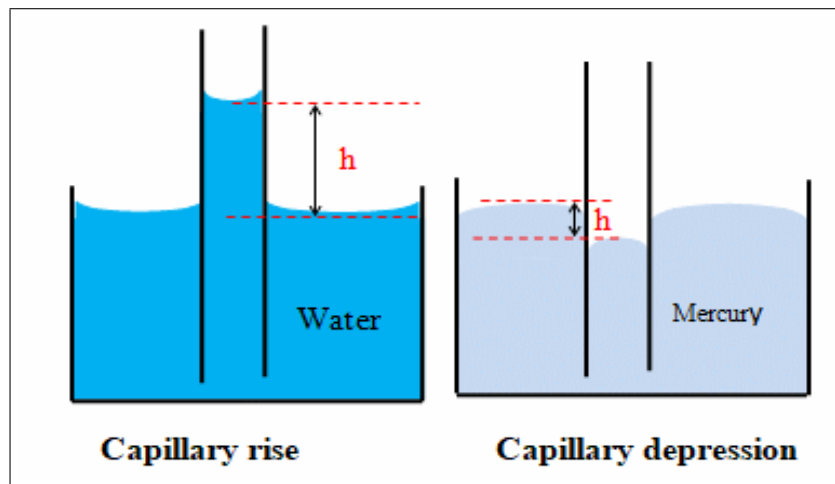

Figure 3.11: Capillary rise and depression.
* The rise or depression of a liquid inside a capillary tube is related to the nature of the liquid and the radius of the capillary tube (Figure 3.11).